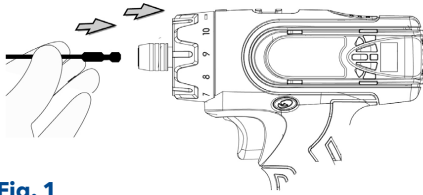

Fig. 1
1. To install the bit, pull the retainer in the direction of the arrow and insert the bit into the retainer as far as it will go. Then release the retainer to secure the bit. (View Fig.1)